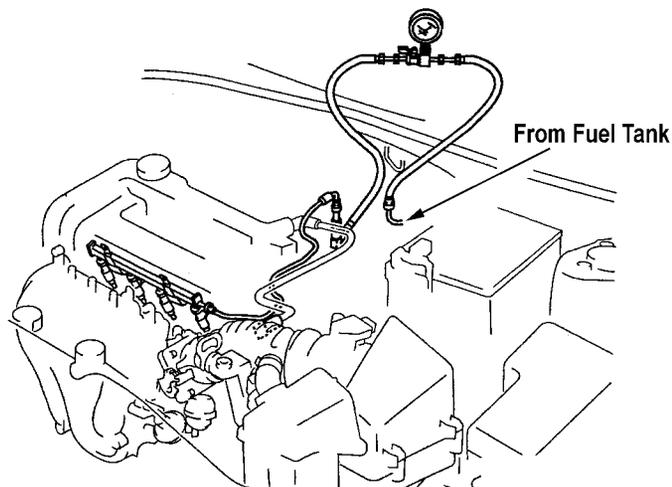

Figure MA014-19
3. Connect a fuel pressure gauge (Snap-on MT3370A or equivalent or use or use a Vantage® graphing meter or MODIS™ Lab Scope Plug-in to read pressure through a 0-100 psi transducer and suitable adapter) (Figure MA014-19).